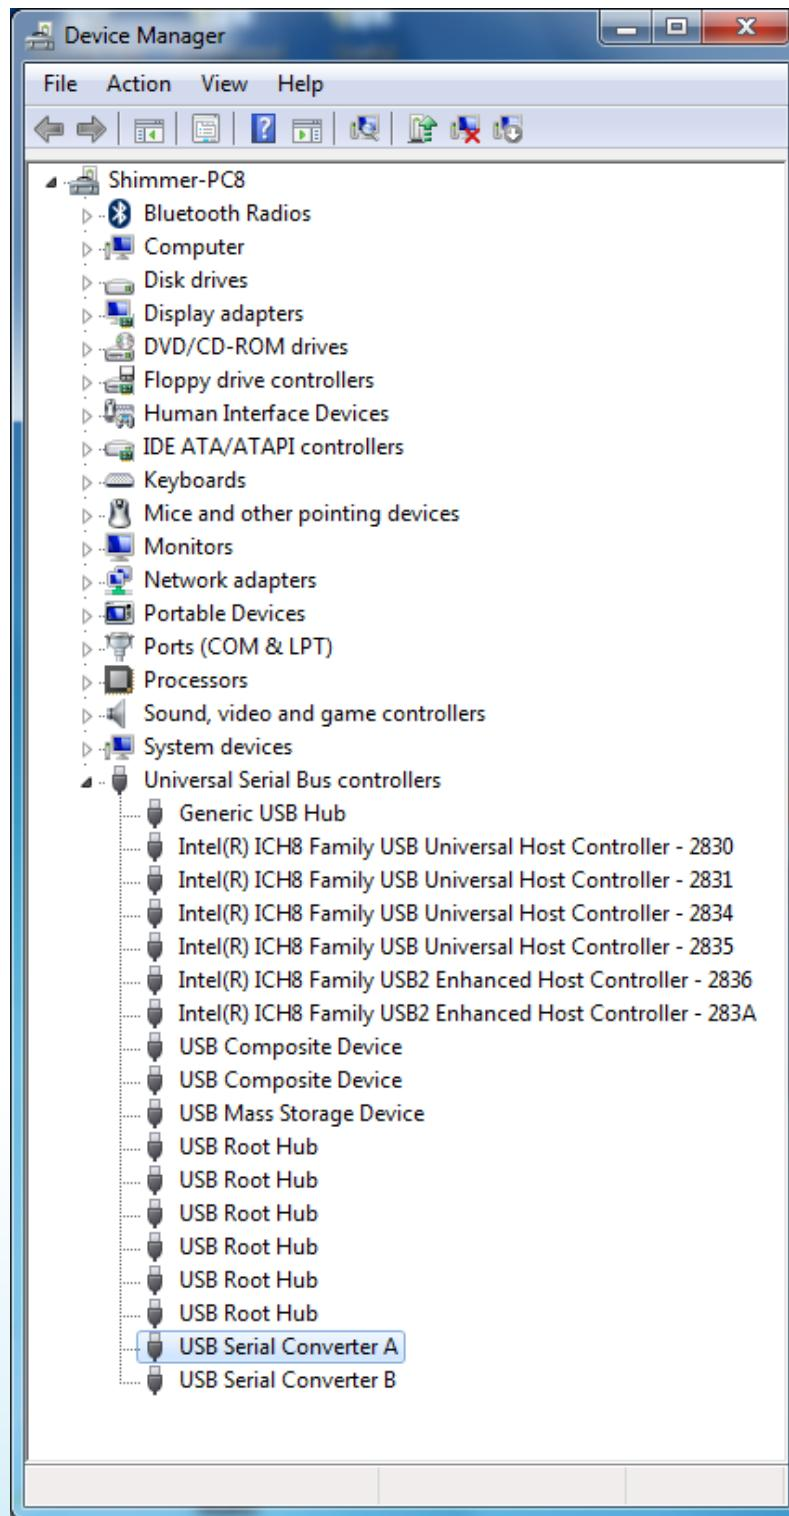

Figure 3-5 Device Manager showing USB Serial Converter A and B
- I. From the *Control Panel*, select *Device Manager* (in Windows this is found from *Control Panel* → *System* → *Hardware* → *Device Manager* or by typing *devmgmt.msc* in the Start menu) and expand the *USB* or *Universal Serial Bus controllers* entry as shown in *Figure 3-5*.